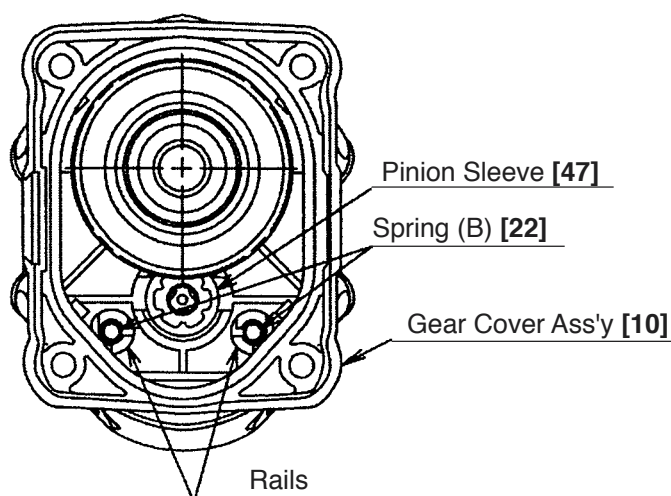

Fig. 14
- Push the Second Hammer [29] in the main body with a drill bit or screwdriver to release the Striker [37] from O-ring (C) [34].
- Remove Spring (B) [22] from the rails in the Gear Cover Ass'y [10] as shown in Fig. 14.